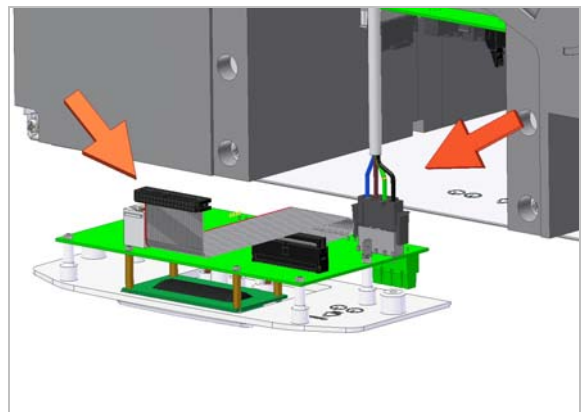

Figure 9: Disconnecting the Ribbon cable (Front of Unit)
6. Disconnect the 4-way connector (see *Figure 9*).